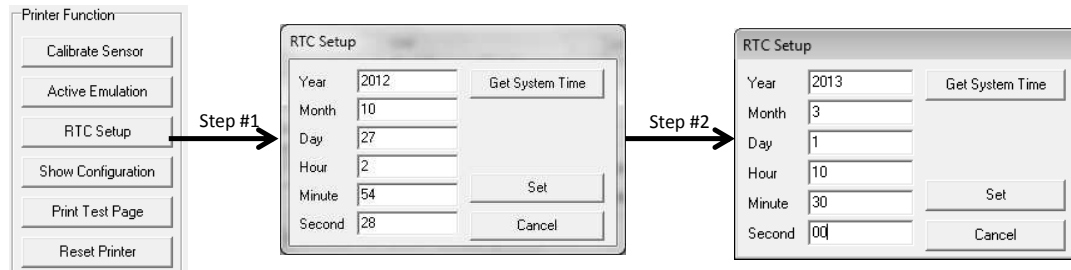

Figure 26. Real Time Clock Setup
1. Click the "RTC Setup" button under Printer Function. The values shown in the fields will be the current clock setting in the printer. See step 1 in Figure 26.
2. Click "Get System Time". This will populate the fields based on the current time of the PC running the Configuration Utility. See step 2 in Figure 26.